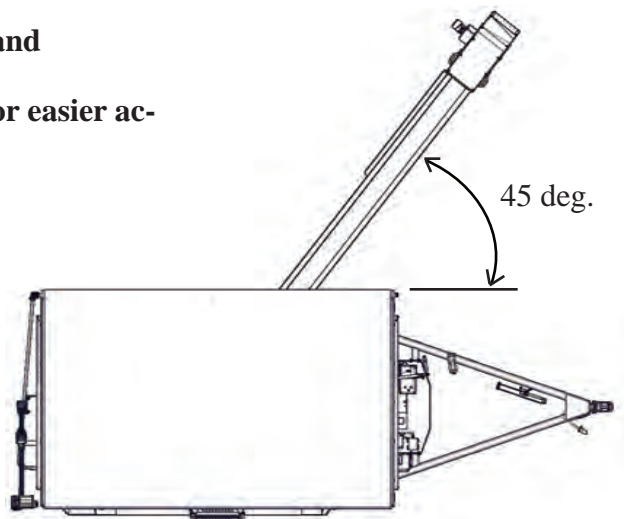

Figure 1.8
5. Rotate the conveyor/auger to 45 deg. (Figure 1.8)
18. With the Boom Arm at a 45 deg. angle and locked, Swing the conveyor/auger back into the resting position on the boom arm (Figure 1.8).
5. Rotate the conveyor/auger to 45 deg. (Figure 1.8).
15. With the boom arm at a 45 Deg. angle, Swing the conveyor/auger back into the resting position on the boom arm (Figure 1.8).